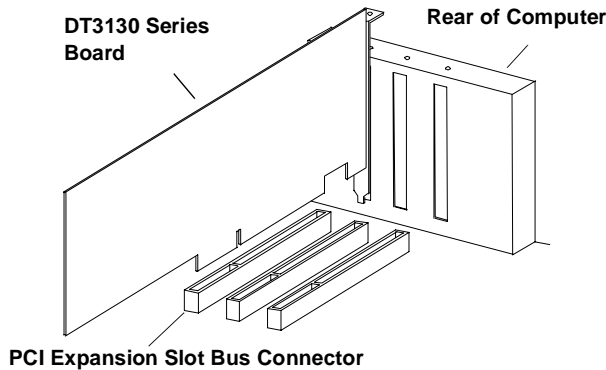

Figure 2: Inserting the DT3130 Series Board in the Computer
4. Position the board so that the cable connectors are facing the rear of the computer, as shown in Figure 2.